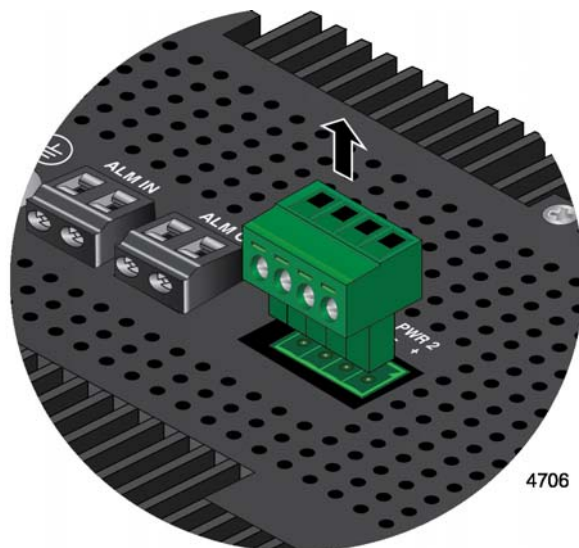

Figure 47. Removing the PWR 1 - PWR 2 Cable Connector
3. Remove the PWR 1 - PWR 2 connector from the top panel. Refer to Figure 47.